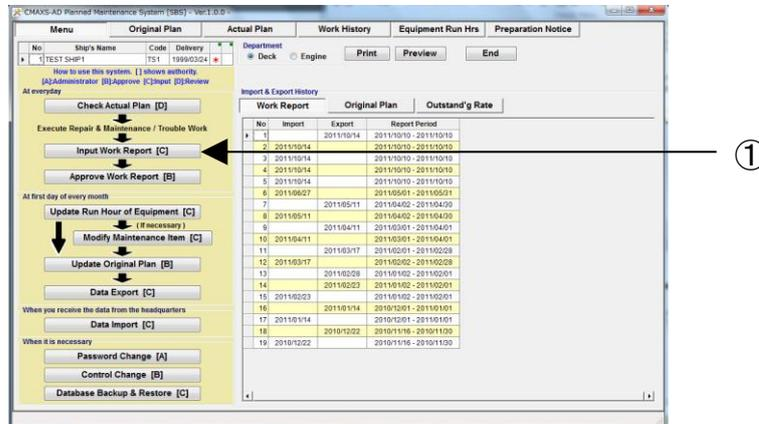

Fig.6-1 Menu Screen
(1) On the “Menu screen”(Fig.6-1), select [Input Work Report].